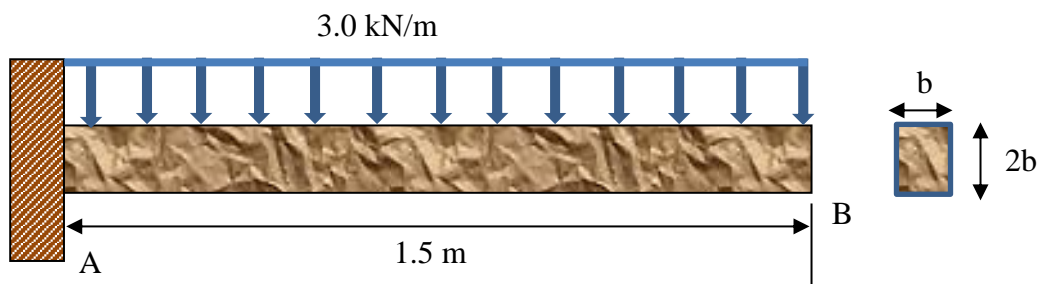

Figure 6 / Rajah 6
4. (a). For the beam and loading shown in **Figure 6**,
- (b). (i). Calculate the maximum deflection of the beam shown in **Figure 6** using the dimension from part (a). Given the modulus of elasticity, $E = 12.5$ GPa.